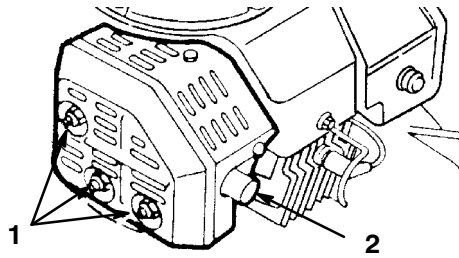

Figure 30
3. Use a hardwood scraper to remove the carbon from the end of the muffler pipe (Fig. 30).
4. Remove the screw, two nuts, and two lockwashers (Fig. 30).